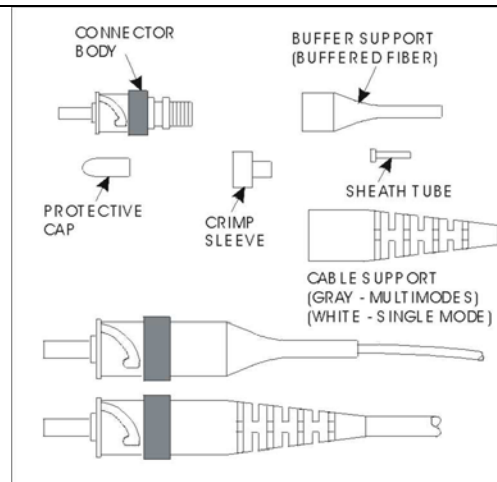

Figure 2. ST[®] II+ Fiber Optic Connector
1. **PLACE CABLE SUPPORT AND SLEEVE ONTO CABLE** Slip the cable support and the crimp sleeve onto the cable. Depending on connector application, the appropriate color crimp sleeve and cable support must be selected. See Figure 2 for proper color selection.